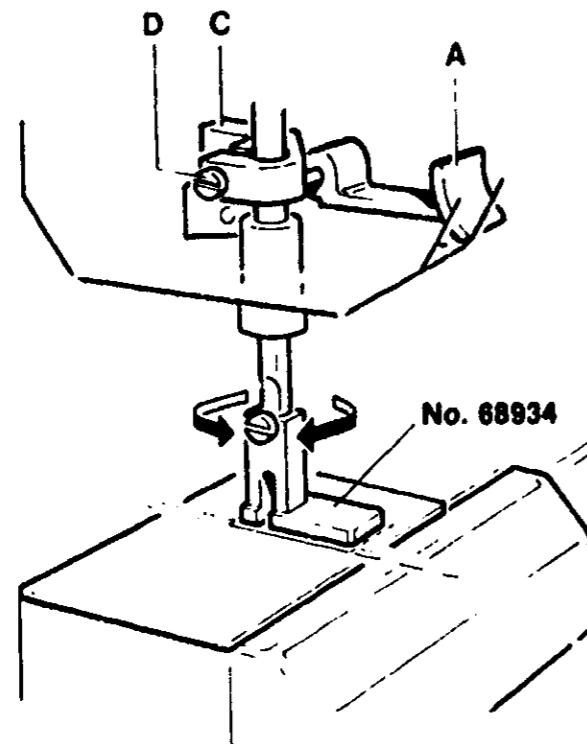

FIGURE 63
- Raise presser foot using lever (A) (Figure 63) and remove needle and presser foot.
- Loosen screw (D) slightly (Figure 63) and adjust orientation of presser foot bar until proper alignment is achieved. Be careful not to allow presser foot bar (C) to move vertically. Tighten screw (D) securely